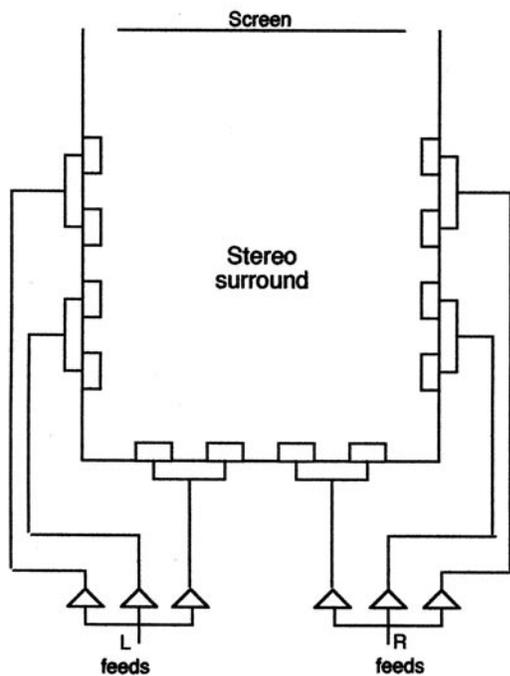

Figure 43: Surround channels, stereo wiring.
- When possible, the surround positions should follow the rake of the floor. (See Figure 43)